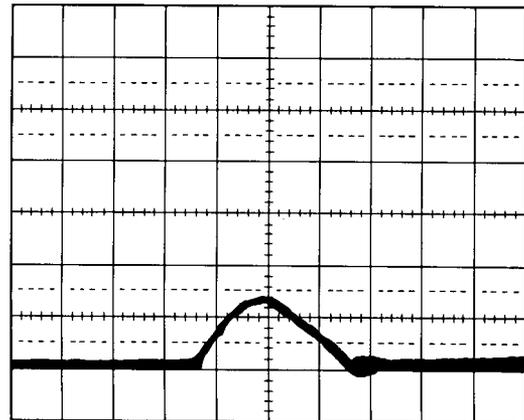

Figure 5-32. Amplitude Marker Waveform
11. Press the spectrum analyzer **CENTER FREQUENCY** key then use the rotary knob to set **CENTER FREQUENCY** so the peak of the signal is at the center line of the oscilloscope screen. (See Figure 5-32.)